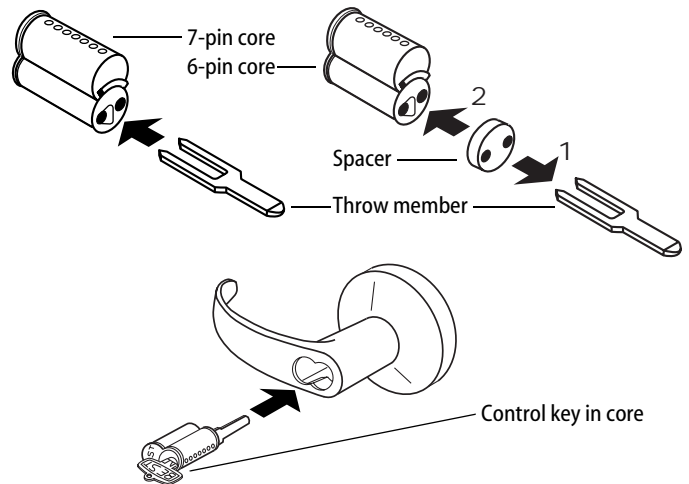

Figure 8 — Installing the core
For 6-pin core users only: Slide the spacer — supplied with your 6-pin cores — over the 7-pin throw member (see Figure 8, top right).
- Insert the throw member (or throw member and spacer) into the back of the core (see Figure 8, top).
- Put the control key into the core and turn the key 15 degrees clockwise.
- Put the core and throw member into the lever with the control key (see Figure 8, bottom).
- Turn the key 15 degrees counterclockwise and remove the key.